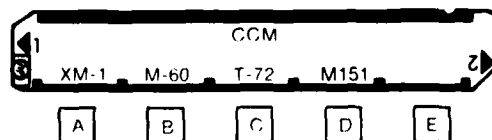

Figure 24. Specific Vehicles Printed on the Program Card
b. Press the letter (A, B, C, or D) that lies under the vehicle of interest printed on the Program Card (figure 24). The display window will flash for a few moments and then a value will appear. Ignore this value.